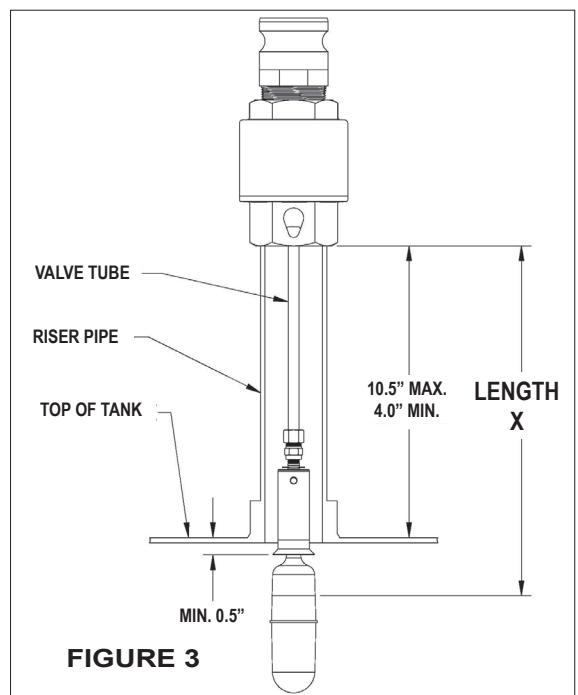

FIGURE 3
5. Loosely attach the float assembly onto the bottom of the valve tube. **DO NOT** tighten the nut on the top of the float assembly at this time. Move the float into the UP position. The line that you made on your float is now at the point where the valve will shut-off during the filling process. Measure from the line on the float all the way up to the point where the valve will thread onto the piping. We will call this Length X (See Fig. 3).
Warning: The flared end of the float assembly, located directly above the float, **MUST** be at least $\frac{1}{2}$ " down inside the top of the tank. It cannot be up inside the tank riser pipe or the valve will **NOT** shut off. (See Fig. 3)
(Consultez la figure 3)